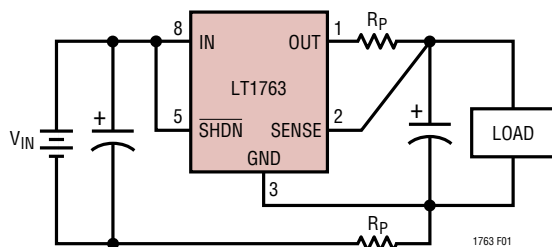

Figure 1. Kelvin Sense Connection
**SENSE (Pin 2/Pin 5):** Output Sense. For fixed voltage versions of the LT1763 (LT1763-1.5/LT1763-1.8/LT1763-2.5/LT1763-3/LT1763-3.3/LT1763-5), the SENSE pin is the input to the error amplifier. Optimum regulation will be obtained at the point where the SENSE pin is connected to the OUT pin of the regulator. In critical applications, small voltage drops are caused by the resistance ( $R_P$ ) of PC traces between the regulator and the load. These may be eliminated by connecting the SENSE pin to the output at the load as shown in Figure 1 (Kelvin Sense Connection).